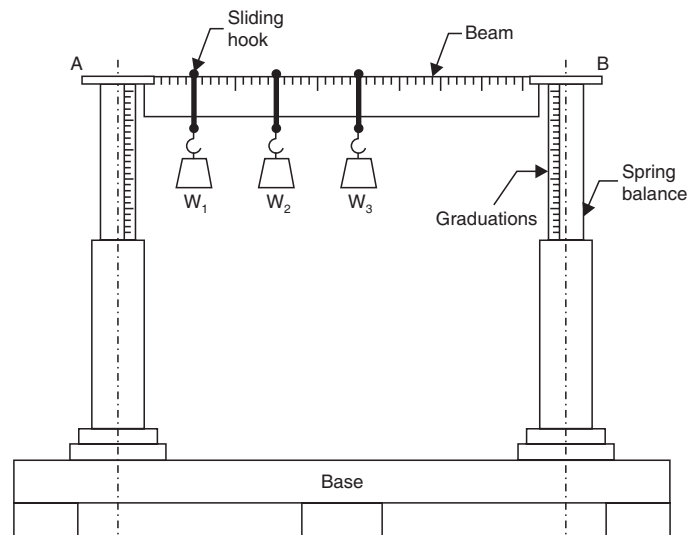

Fig. 4.1
**Apparatus.** A graduated wooden beam, two compression spring balances, weights, sliding hooks etc. Refer to Fig. 4.1.